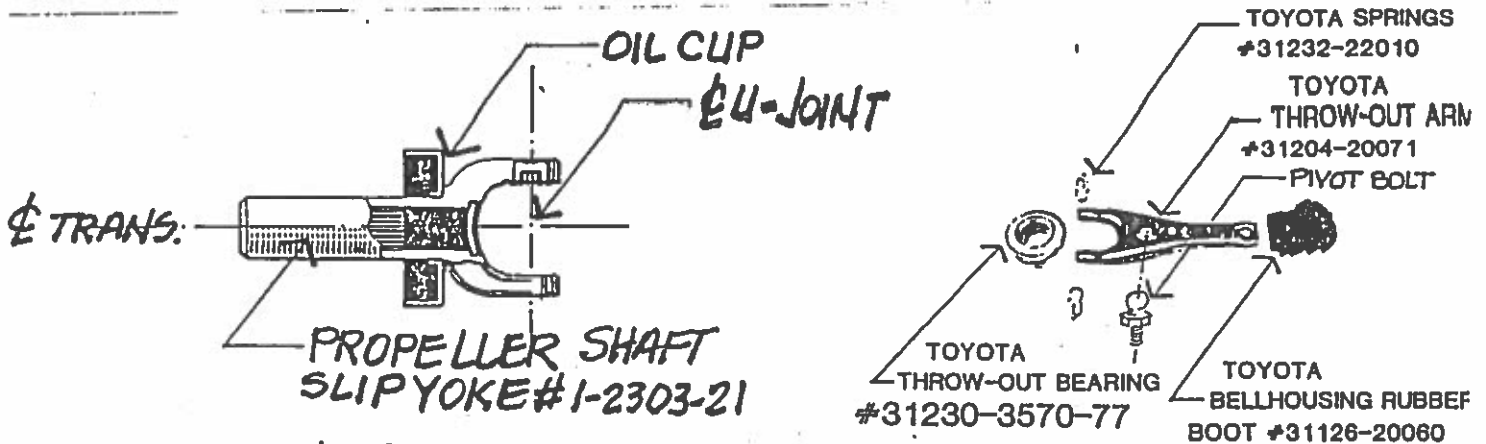

FIGURE NO. 2
**PARTS INCLUDED WITH TRANSMISSION PURCHASE:** (SEE FIGURE NO. 2)